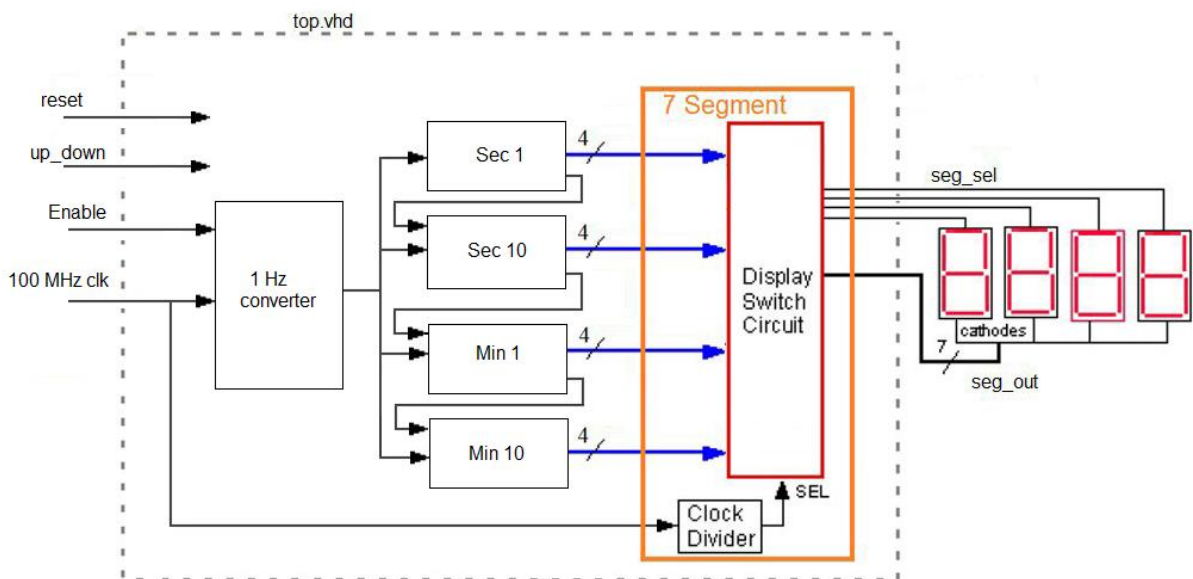

Fig. 2. Block diagram of top module
- e. “enable_out” output signal will be an asynchronous one. It will be 1(0) for a clock cycle if the current counter value is “upperlimit” and 0(1) for all other values while counting up (down).
5. Build your top module and instantiate all components according to Figure 2.